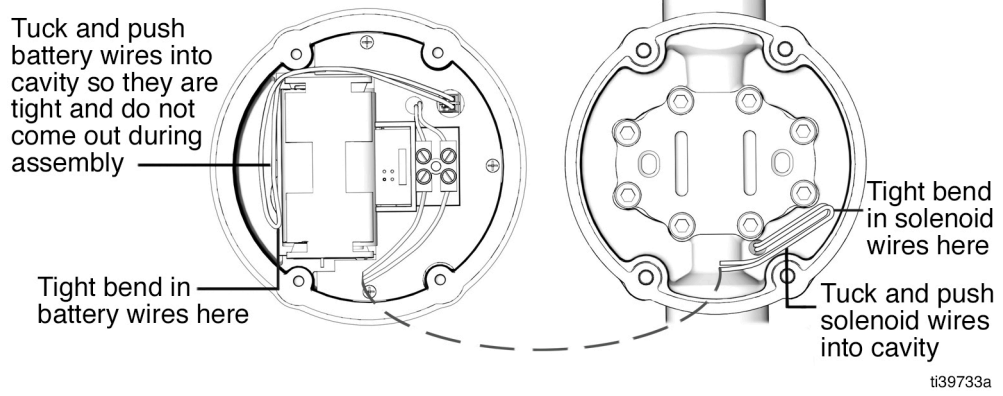

FIG. 9
NOTE: The reference numbers in the following instructions refer to FIG. 8 and FIG. 9.
2. Remove the impact guard (37).
3. Remove the four (4) screws (9) from the meter housing (10), and remove the electronics bezel (1).
4. Locate the battery pack and remove the batteries (36).
6. Insert new batteries (36) as shown on the battery holder (negative and positive positions). Press down firmly.
8. Position the wires as shown in FIG. 9, to minimize pinching the wires between the meter housing and the bezel housing.
9. Inspect the bezel seal (2) for damage. Replace, if needed.
10. Place the electronics bezel (1) onto the meter housing (10).
11. Reinstall the four (4) screws (9), tightening the screws in a diagonal pattern to 15 - 25 in-lb (1.7 - 2.8 N•m).